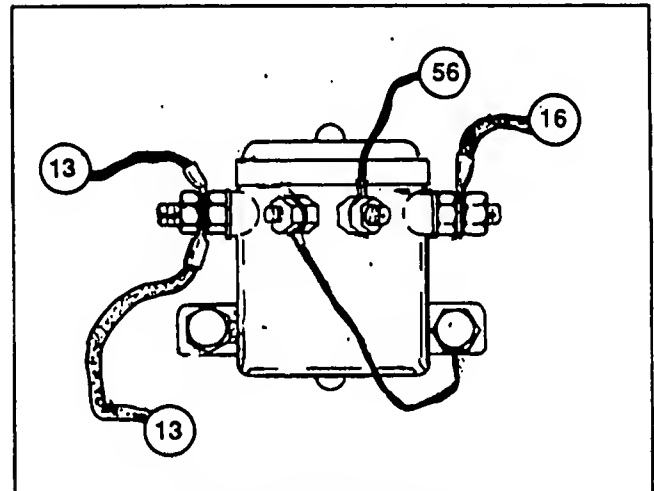

Figure 2. Starter Contactor
2. Connect the positive (+) meter test lead to the Wire 56 terminal of the starter contactor (see Figure 2). Connect the common (-) meter test lead to frame ground.